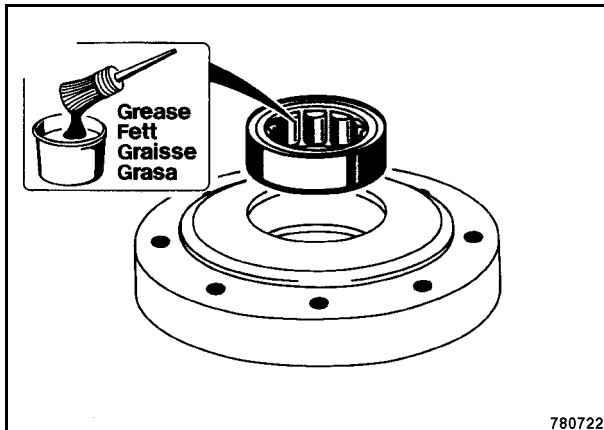

Fig. 1
1. Press the new bearing (Fig. 1) down to full contact.